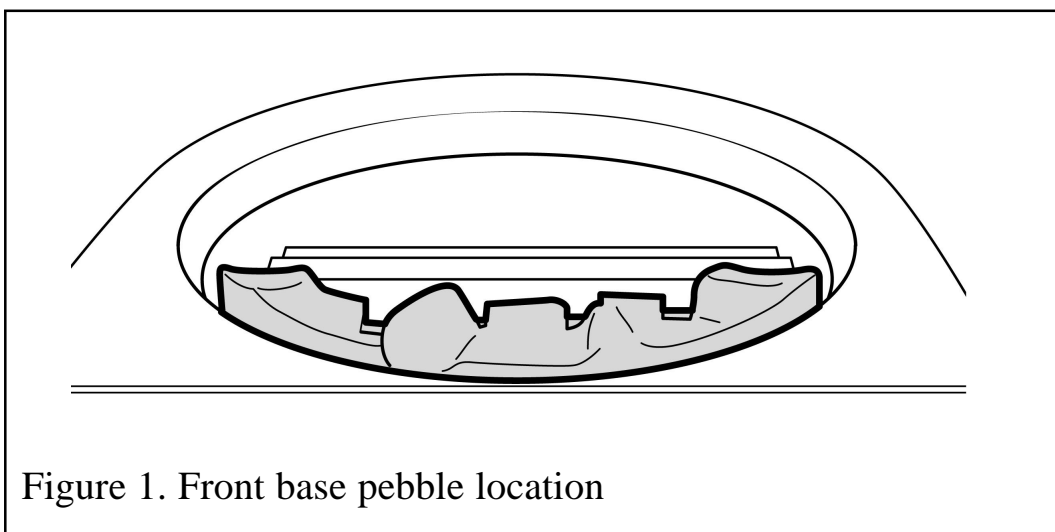

Figure 1. Front base pebble location
1. The front base pebble has the letters 'MF' on the underside. Locate the front base pebble in front of the burner (See figure 1).